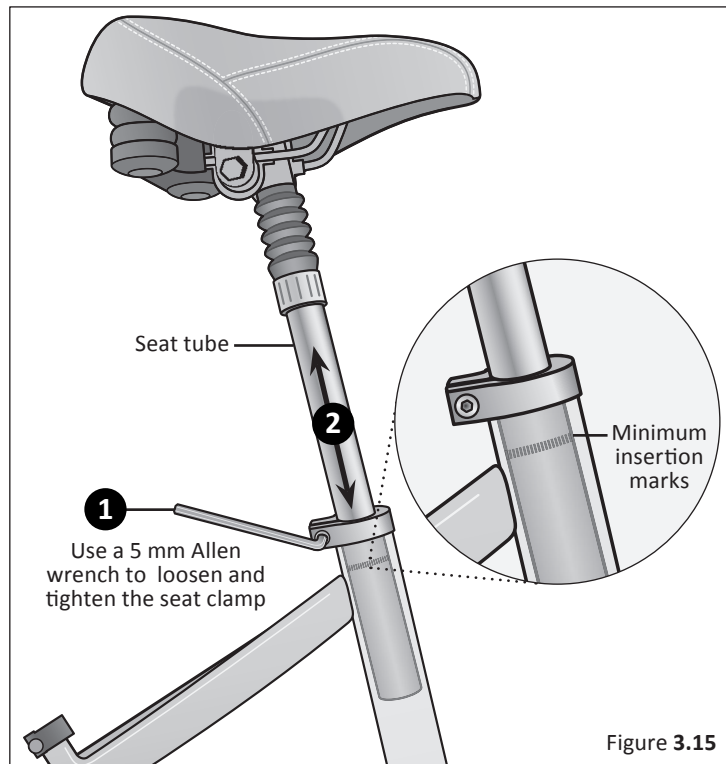

Figure 3.15
- 1 Using a 5 mm Allen wrench, loosen the seat clamp bolt and insert the seat post into the seat tube. Figure 3.15